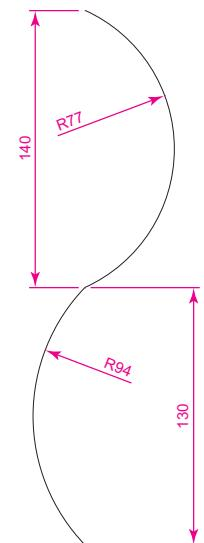

Fig. 12.39 Example Sweep – the pline path
2. Change to the ViewCube/Front view, Zoom to 1 and construct a pline as shown in Fig. 12.39 as a path central to the ellipse.